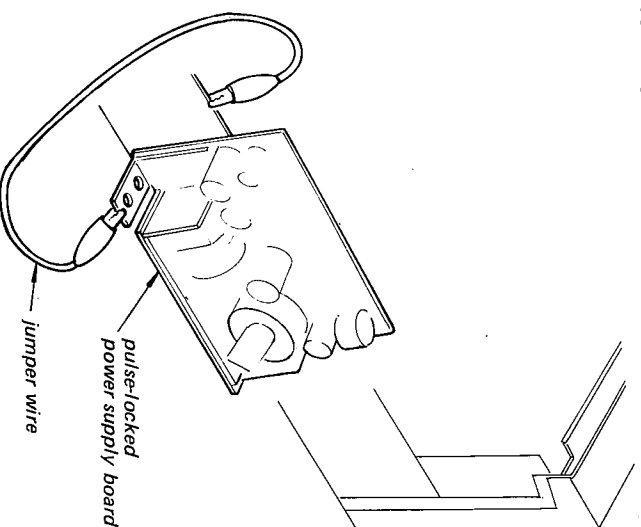

Fig. 3
1) Be sure that there are no bits of solder and wire ends on the places marked *2 in Fig. 3.
* Apply thermal compound coat to the positions marked *1 and *2 in Fig. 3 before mounting the transistors.